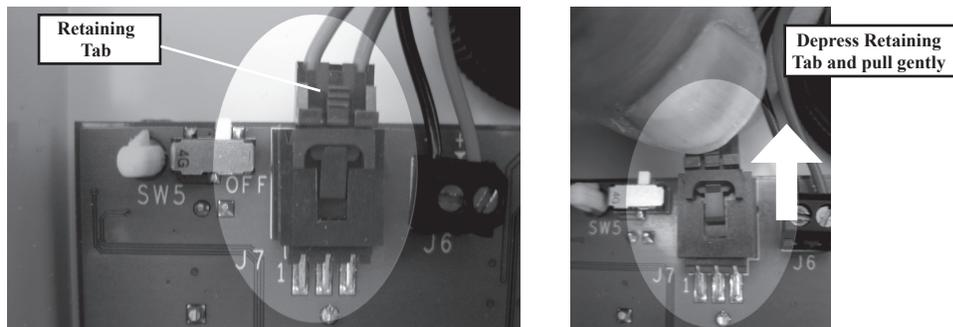

Figure 6 Disconnecting the Battery from the Control Board
- d. Disconnect the battery cable from the Alarm Circuit Board (J7). Gently depress the retaining tab of the connector and pull the connector free (see Figure 6).
- e. Remove and retain the two screws holding the battery assembly to the rear cover and remove the battery assembly from the Alarm (see Figure 6).